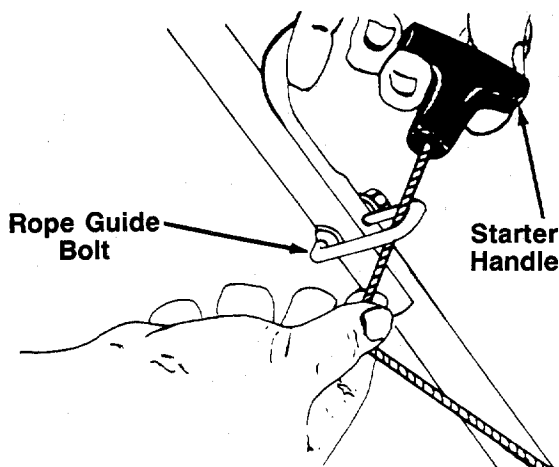

FIGURE 8.
2. With the spark plug wire disconnected and grounded, depress the blade control handle and pull the rope out of the engine. Slip the starter rope into the rope guide bolt as shown in figure 8.